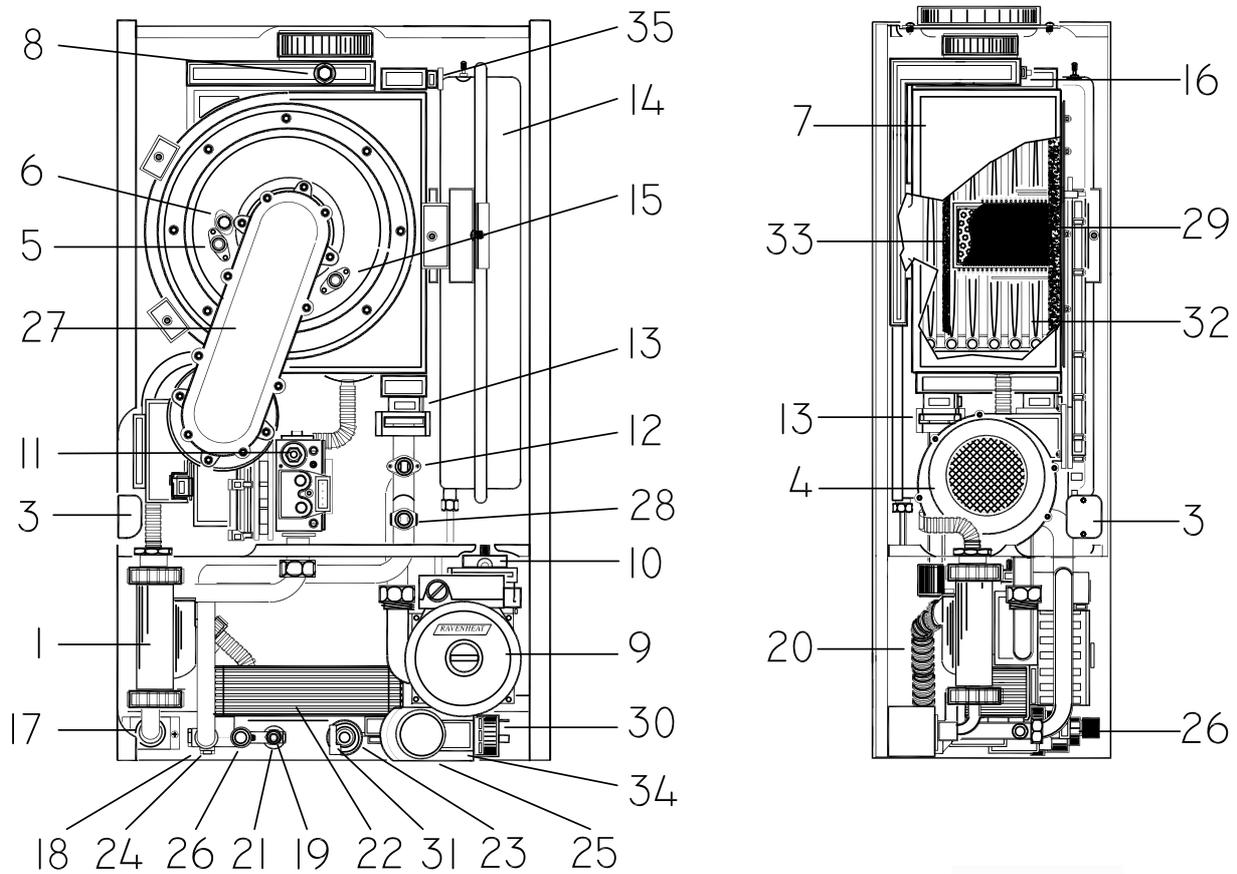

Fig. 1
#### BASIC COMPONENTS - (See figure 1).
- 1.2** Fig.1 Illustrates the general layout of components.